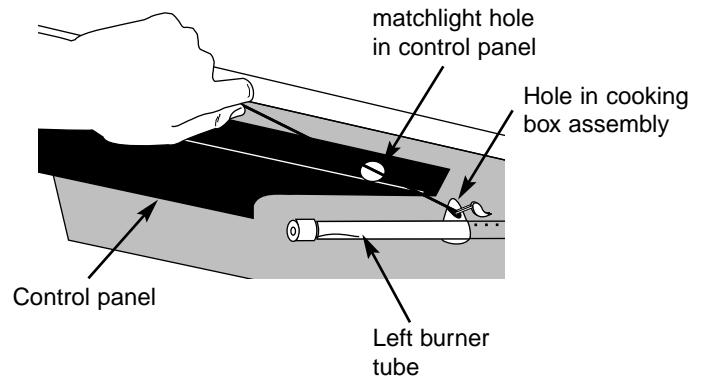

Figure 3
- 8) Insert match holder and lit match through matchlight hole to ignite LEFT burner. Figure 3.